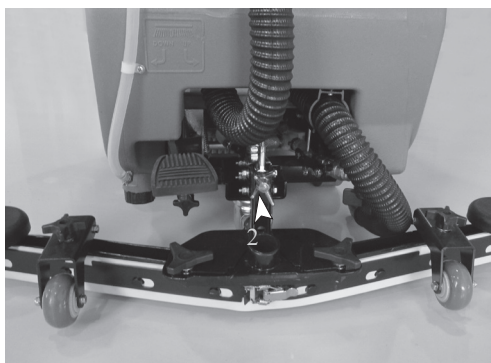

Figure 46
- Counter-clockwise rotate the regulating nut as indicated by arrow 2 in the following diagram if both sides of squeegee blade contact the ground well but there is a small gap between middle of blade and the ground. Be sure the blade contacts the ground well or it forms an inclined angle of 45° with the ground (Figure 46). Adjust the squeegee blade following step 3 or 4 if either side of blade needs adjusting.